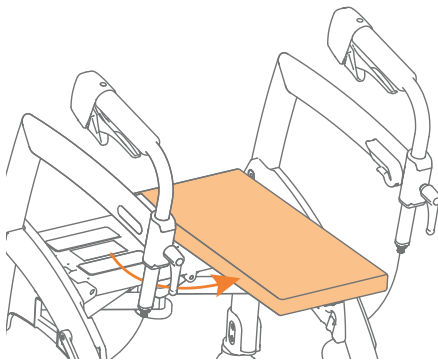

Figure 13: Place the seat cushion crosswise.
- c. Pull the seat cushion away, turn it 90 degrees and place it crosswise on the side of the red handle (**Figure 13**).